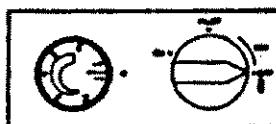

Figure 18 - Control Knob In The OFF Position
- Push in control knob slightly and turn clockwise \curvearrowright to the OFF position. (see Figure 18).
- Push in and turn control knob counterclockwise \curvearrowleft to PILOT position. Press in control knob for five (5) seconds.
- Press in control knob and turn counterclockwise \curvearrowleft past IGN to PILOT (see Figure 18). This will cause the piezo ignitor to spark and light the pilot gas. Keep control knob depressed for 10 seconds before releasing. If needed, repeat steps 5 through 7 until pilot lights
- When pilot is lit, turn the control knob to ON position (see Figure 18).
- To select desired heating level, turn the temperature setting knob counterclockwise \curvearrowleft between 1 and 7 (see figure 18).